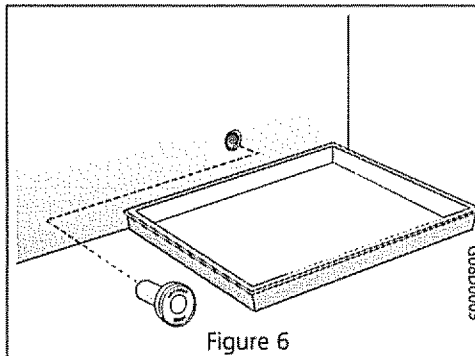
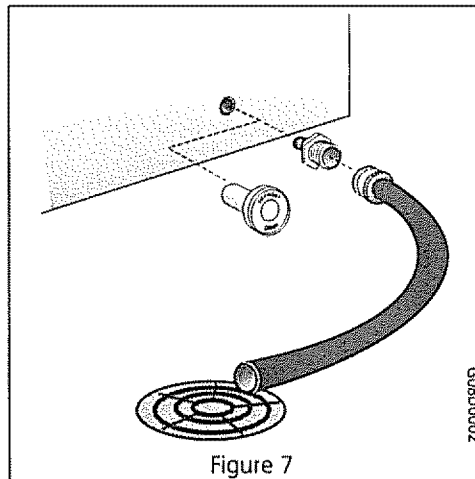
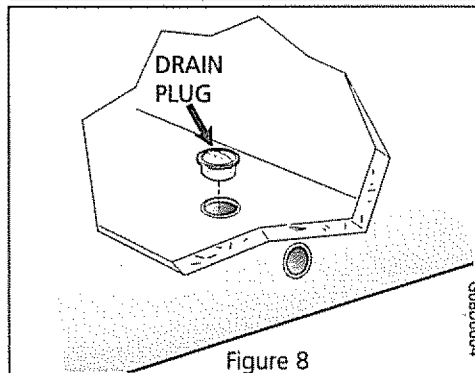

Figure 6
Figure 7
Figure 8
- On chest models with a defrost drain, place a shallow pan or the Divider/Drain Pan (provided with some models) beneath the drain outlet (Figure 6). A one half inch garden hose adapter can be used to drain the freezer directly into a floor drain (Figure 7). If your model is not equipped with an adapter, one can be purchased at a hardware store. Pull out the stopper inside the freezer, and pull off the outside defrost drain plug (Figure 8). Defrost water will drain out. Check pan occasionally so water does not overflow. Replace the drain plug and stopper when defrosting is completed.